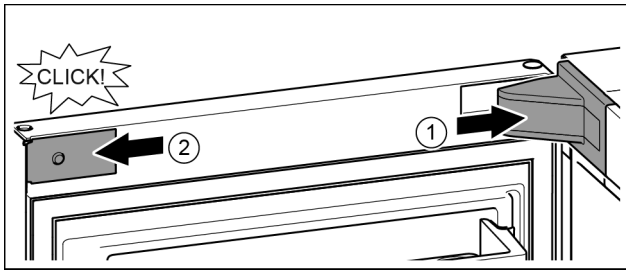

Fig. 24
- ▶ Position the bearing bracket and engage. If necessary push apart carefully. Fig. 24 (1)
- ▶ Position the panel on the side and click into place. Fig. 24 (2)